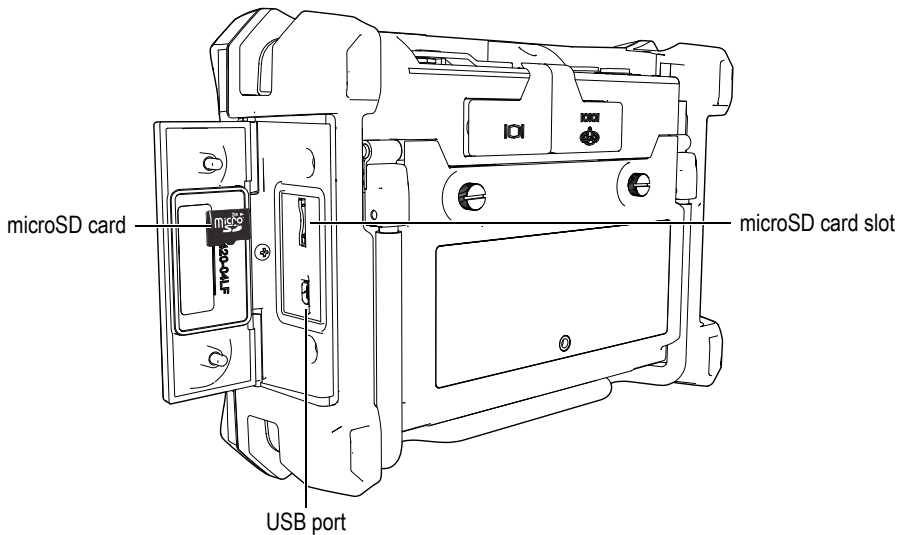

Figure 6-28 The microSD card location
2. Make sure that a microSD card is inserted into the microSD card of the NORTEC 600 (see Figure 6-28 on page 330).
2. Make sure that a microSD card is inserted in the microSD card slot of the NORTEC 600 (see Figure 6-28 on page 330).